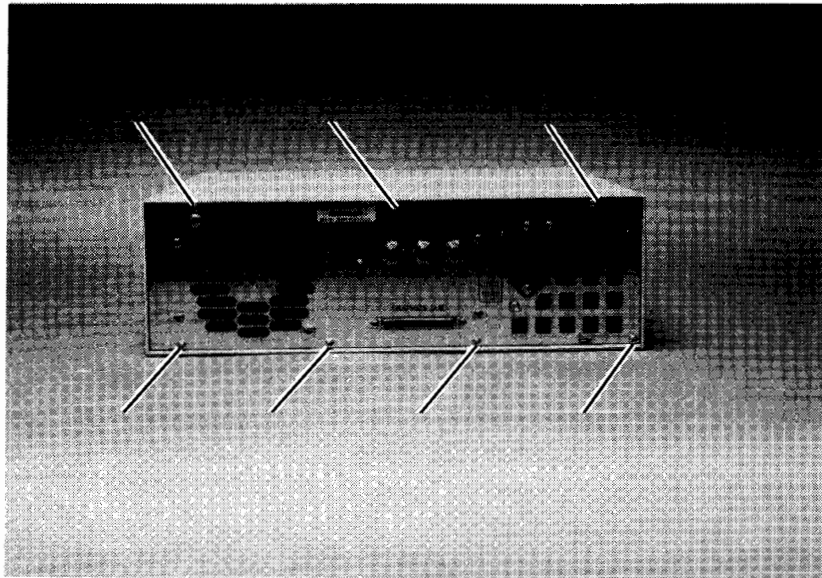

Figure 6-2. Cover Screws
3. Remove 7 TORX screws from the rear panel (Figure 6-2).